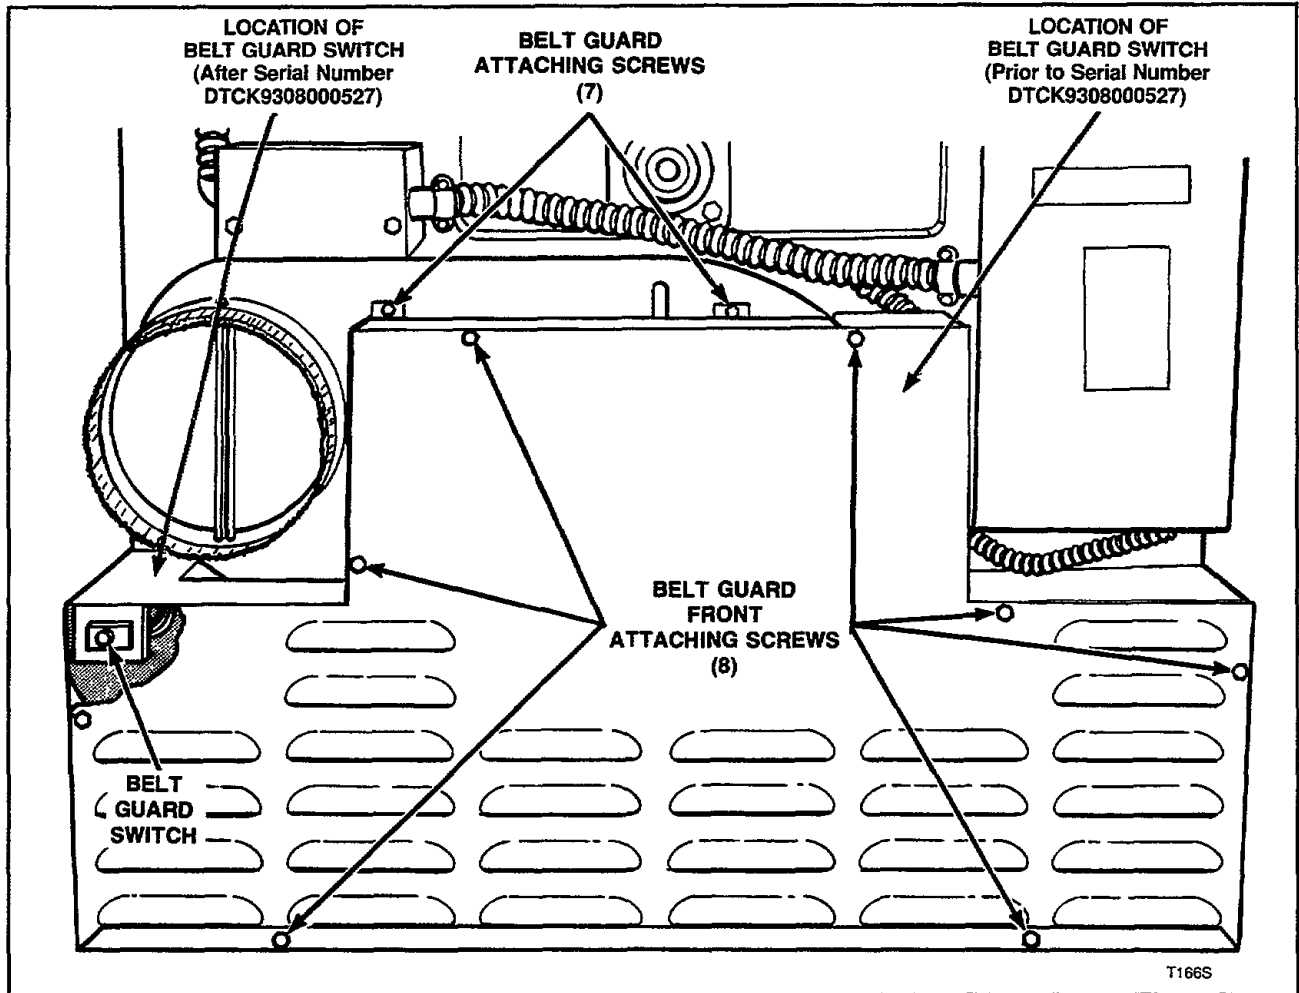

Figure 27
**30. BELT GUARD AND BELT GUARD SWITCH (Figure 27)**
- Remove screws holding belt guard front to belt guard, *Figure 27*